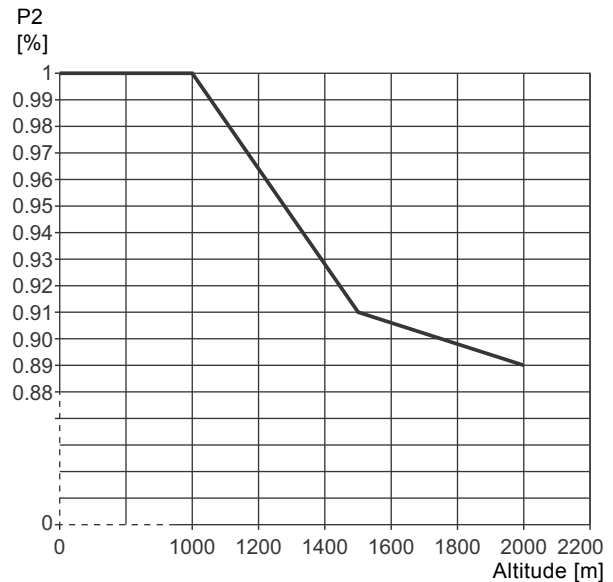

Fig. 13 Derating of motor output power (P2) in relation to altitude above sea level
- Motors installed more than 1000 metres above sea level must not be fully loaded due to the low density and consequent low cooling effect of the air. See fig. 13.